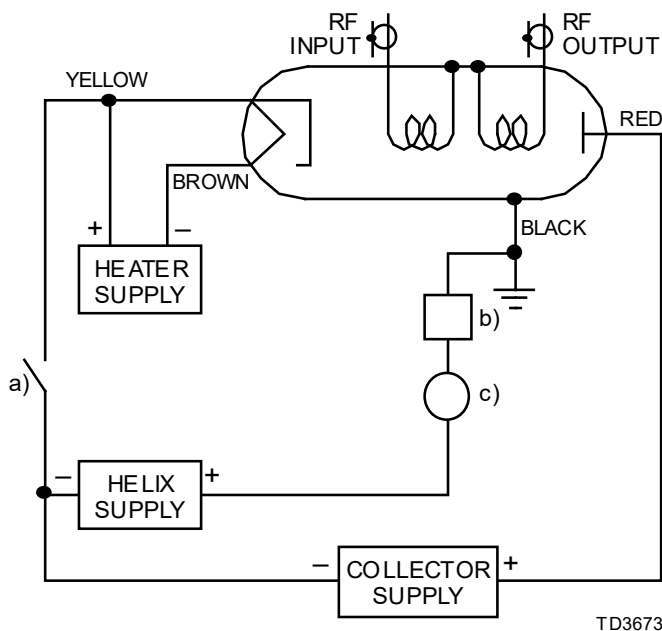

FIGURE 1.
Heater Voltage — Either an ac or dc heater supply may be used unless otherwise specified on the Test Performance Sheet. In some cases, an ac heater voltage will damage the device. If an ac heater supply is used, there is no limitation on the frequency of the voltage. However, for minimum heater modulation, a direct-current heater supply may be used. If a dc heater supply is used, the yellow lead *must* connect to the positive side of the heater supply (see Figure 1). Product life will be greatly reduced if the heater polarity is reversed. Moreover, heater surge current should *never* exceed approximately two and one-half times the steady-state value.
Helix (Body) Current — An overcurrent relay (as depicted in Figure 1) should be part of the power supply and should remove the helix voltage (sometimes referred to as beam or cathode voltage) in a fraction of a second if the TWT body current exceeds the specified value. The relay trip level should be adjusted to 130 percent of the maximum current encountered in system operation or to a value just below the absolute maximum rating, whichever is lower.
Application of Voltages — Recommended operating voltages and currents are given on the product nameplate and are to be applied in the following sequence (see Figure 1):
2. **Anode Voltage.** Some of these device types have a control anode lead (blue). The anode would appear between the cathode and the helix (reference Figure 1). When the anode is at cathode potential, there is essentially no beam current flowing. When the anode is at helix (ground) potential, the device is in the "on" condition with full beam current flowing.
One method of operation for device types equipped with an anode connection is to permanently connect the anode to ground (reference Figure 1). Another method requires moving the optional high-voltage vacuum relay to the anode circuit and incorporating it into the on-off logic. Furthermore, the anode voltage may be made adjustable and used to control the beam current to any value between full off and full on. This approach can be used to control gain or power output; however, the gain change is much more rapid at the high end of the band than the low end of the band. Therefore, this type of control is not useful for most broadband applications.
5. **Rise and Fall Time Requirements.** If the optional high-voltage vacuum relay shown in Figure 1 is used, there are no constraints on the rise and fall times of the helix and collector supplies. It is only necessary to ensure that the relay cannot be closed until both supplies reach steady-state values and that the helix overcurrent sensor is capable of quickly opening the vacuum relay in case of overcurrent. However, it should be noted that this “off” condition does not ensure the absence of lethal voltages. Additional provisions must be made to turn off and discharge the helix and collector supplies before operating or service personnel can come in contact with the high-voltage connections on the device.